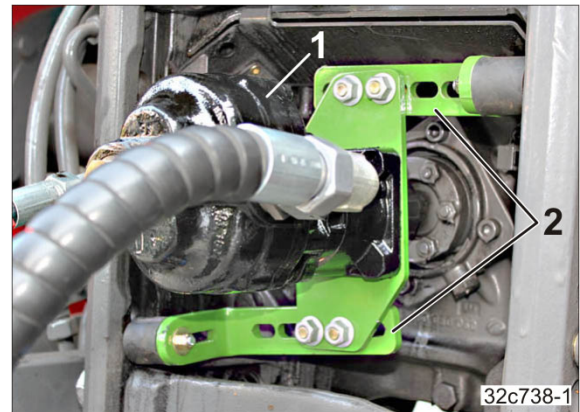

Fig. 161
5. Couple the hydraulic pump (Fig. 161/1) to the tractor's PTO shaft.
6. Set the adjuster segment so that both buffers (Fig. 161/2) rest against it.